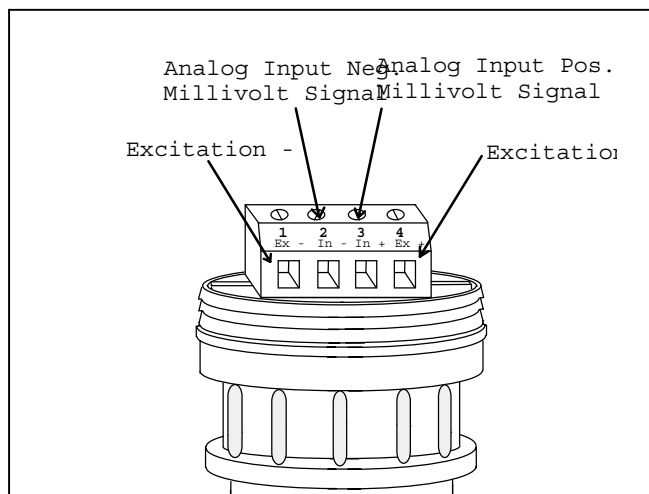

Fig. 1 IP-BA100 Terminal assignment.
The four screw terminals are used to connect the sensor. If the sensor does not need excitation power only two of the terminals are used. The first screw terminal (1) is Excitation Minus which is connected to common ground. The second screw terminal (2) is an analog input that is connected to the negative output of the bridge sensor. It has a high input impedance to eliminate sensor loading. The next screw terminals (3) is connected to the positive output of the bridge sensor. It also has a high input impedance to eliminate sensor loading. The last screw terminal offers excitation plus (5V) for the sensor. This output has minimal drive capability (25 milliamperes maximum). The power is pulsed on for a short duration then turned off. The length of the on-time power pulse can be set when programming the datalogger's header. Fig. 1 shows the position of the screw terminals.